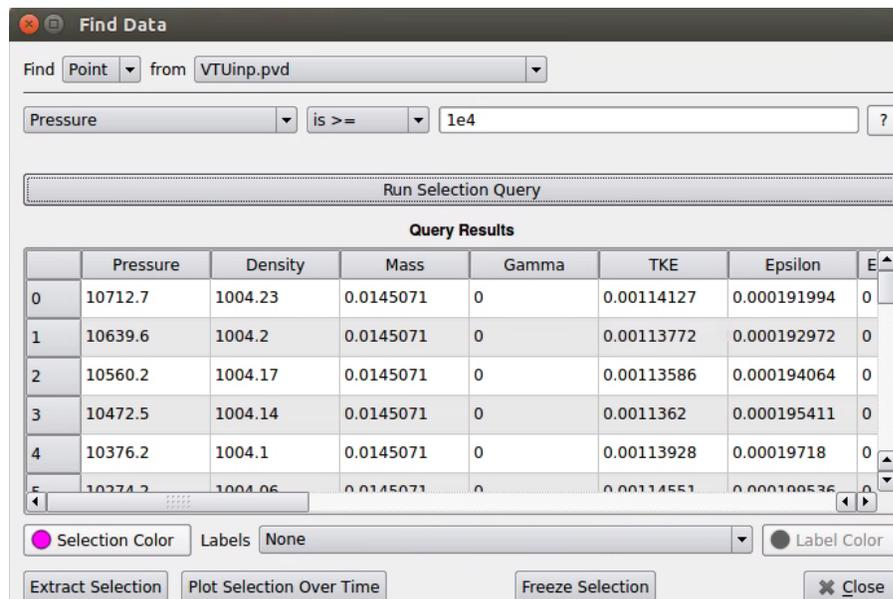

Figure 4: Screenshot of the Find Data window in PARAVIEW.
- **Find Data** Find data by scalar value makes it possible to select particles on the basis of the value of their fields. When activating a filter a window opens. In order to select the particles we want, in that window (see the Figure 4), we have to set the **Find** tab on **Point** in that window. In the left tab we can choose the desired field, whereas in the right one we can set the value (note that there are several conditions: \geq , \leq , $=$, between, etc.). Once we have set all the options, we press on **Run Selection Query** and we will be able to